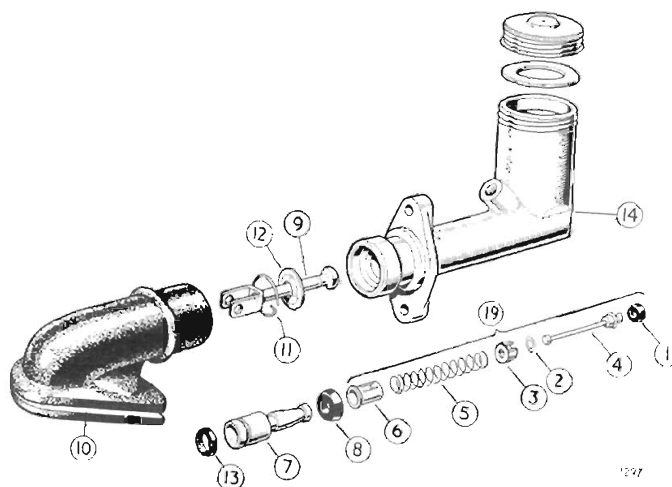

Fig. 6. Exploded clutch master cylinder
5. Remove the bolts (16) from the master cylinder mounting flange and withdraw the unit from the bulkhead.
**To Dismantle (Fig. 6)**
1. Remove the circlip (11) and the push rod stop (12) and push rod (9).
2. Withdraw the plunger (7) and recuperation valve assembly (19) from the cylinder bore.
3. Using a small screwdriver, lift the tag on the spring retainer (6) over the flanged end of the plunger (7) and detach the recuperating valve assembly.
4. Release the valve shank (4) from the spring retainer (6) by manoeuvring the flange on the stem through the eccentrically positioned hole in the end face of the spring retainer. The spring (5), distance piece (3) and spring (2) may now be withdrawn from the valve shank (4).
5. Remove the valve seal (1) from the shank (4) by carefully easing it off with the fingers.
6. Similarly, detach the rubber seals (8) and (13) from the piston grooves.